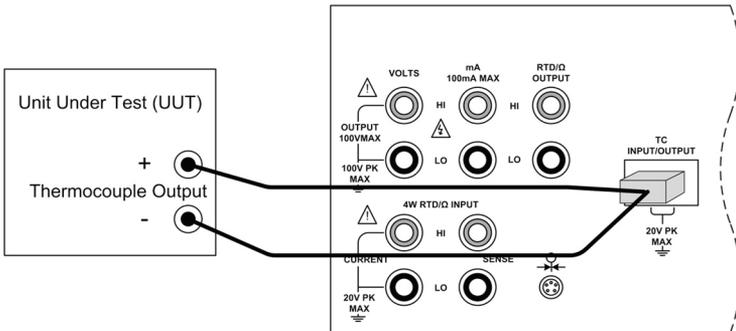

Figure 14 - Thermocouple Input Connection
- e) Connect the unit under test to the thermocouple terminals of the PD9500 using a standard T/C mini-plug as shown in figure 14. One pin is wider than the other; do not attempt to force the plug in the wrong polarization. The T/C wire used for the connection must match the thermocouple type selected for proper cold junction compensation. If the PD9500 and the T/C mini-plug are at different temperatures, wait at least 3 minutes for the mini-plug and terminals to stabilize to the same temperature.